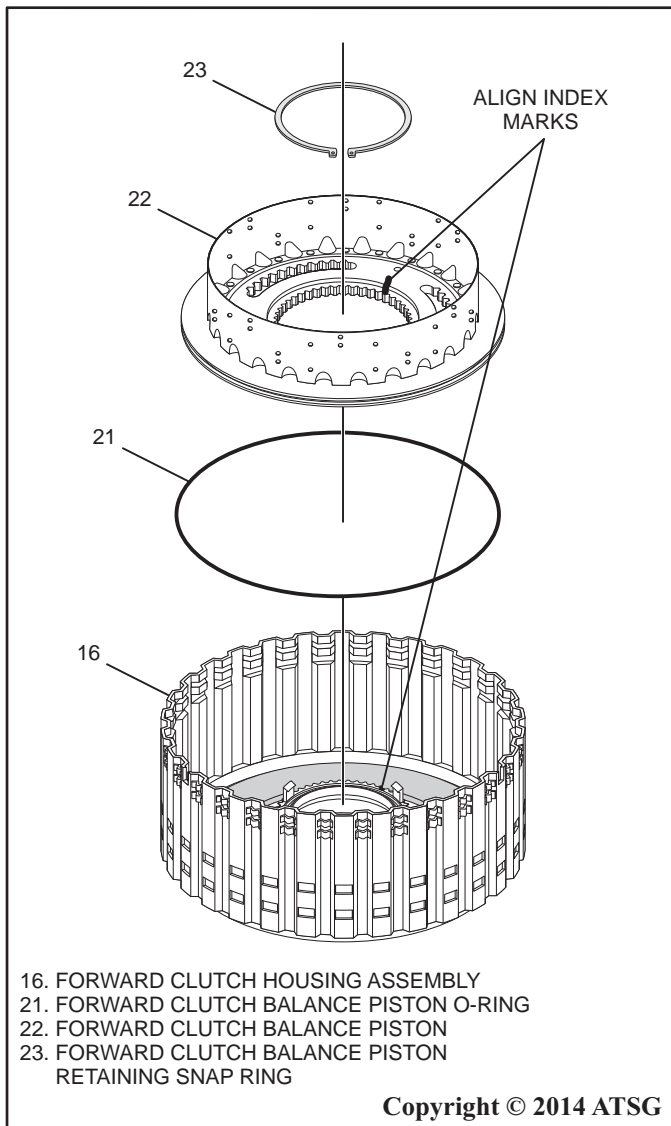

Figure 88
40. Install a new o-ring onto the forward clutch balance piston and coat the seal with a small amount of ATF or Trans-Jel® and install the balance piston into the forward clutch housing making certain to align the painted index marks as shown in Figure 88.
41. Using ST Clutch Spring Compressor 307-525 or similar tool, carefully compress the forward clutch balance piston and install the retaining snap ring as shown in Figure 88.